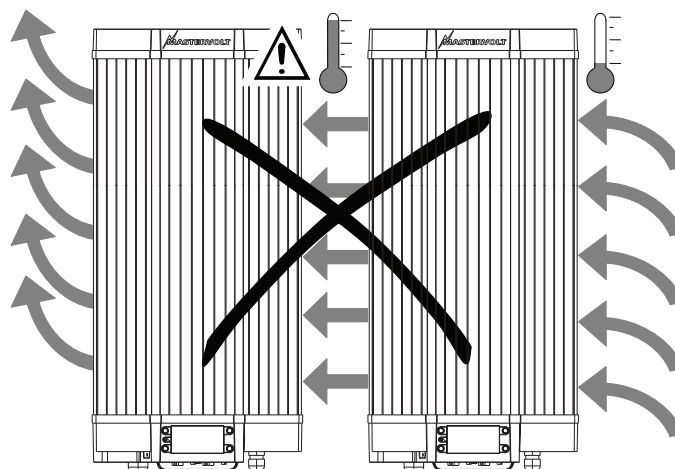

Figure 5
- Keep at least 50 cm in between the inverters when several Sunmasters are installed next to each other (figure 5). If this is not possible, adequate measures must be taken to avoid one inverter heating up the other (figure 4).